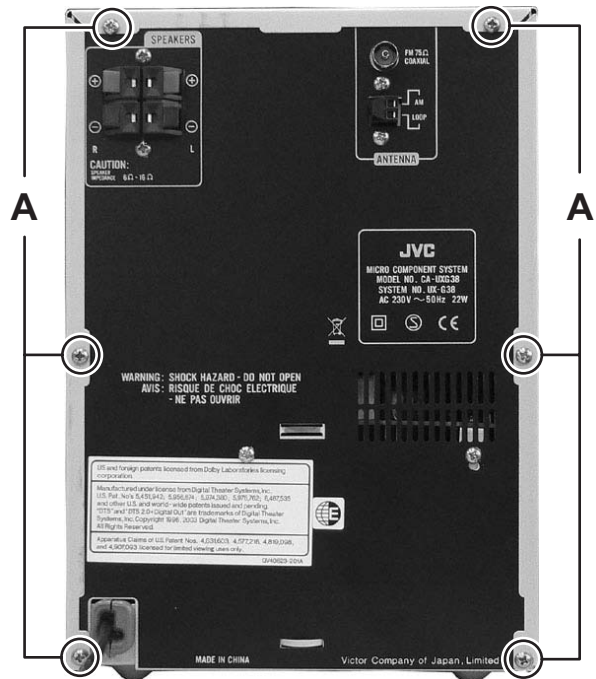

Fig.1
#### 3.1.1 Removing the Metal cover (See Fig.1, 2)
- (1) Remove the six screws **A** attaching the metal cover. (See Fig.1)
(See Fig.1)